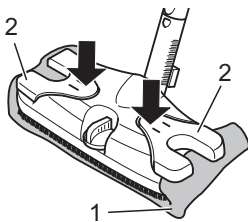

Fig. 6
- **Cleaning cloth (Fig. 6)**
Use the cleaning cloth together with the floor nozzle to clean smooth surfaces. Secure the cleaning cloth (Fig. 6/1) to the floor nozzle using the clamps (Fig. 6/2).